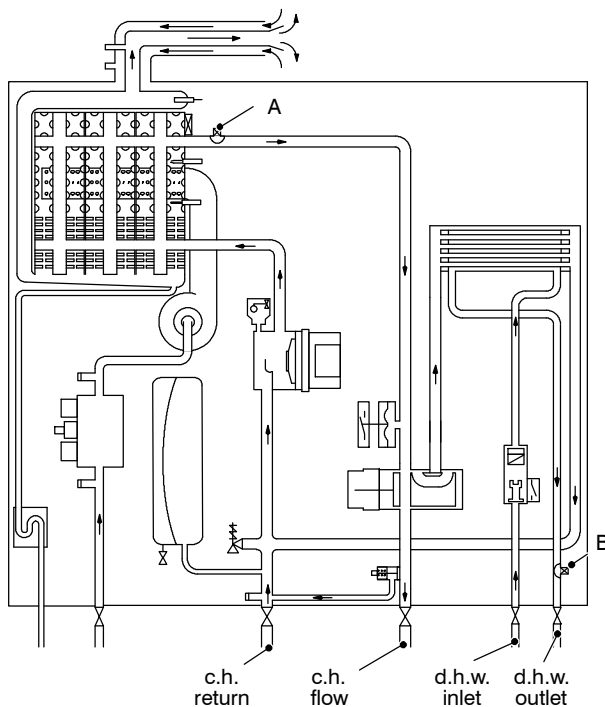
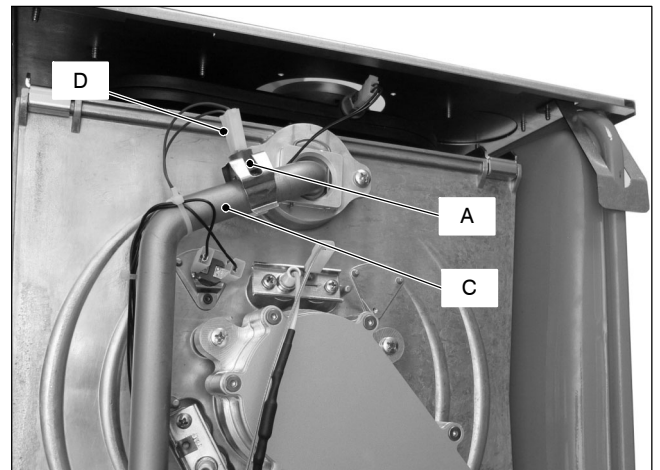
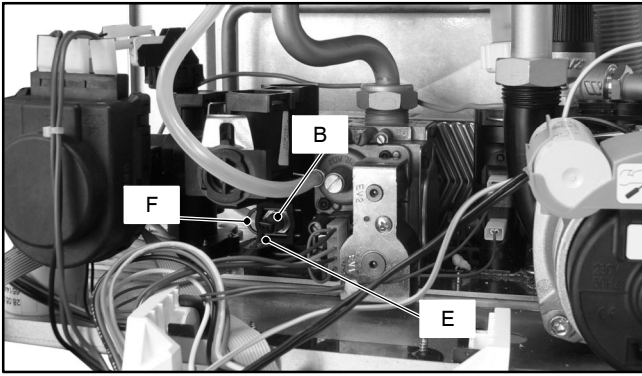

Fig. 15.2
Fig. 15.3
Fig. 15.4
On the boiler there are two Temperature probes. One on the output of the primary condensing heat exchanger (c.h. Temperature probe) A in Fig. 15.2 and Fig. 15.3; one on the output of the d.h.w. heat exchanger (d.h.w. Temperature probe) B in Fig. 15.2 and Fig. 15.4.
- 3 Remove the electric connector D and remove the c.h. Temperature probe A – Fig. 15.3
- 4 Remove the fork F and pull the d.h.w. Temperature probe B – Fig. 15.4